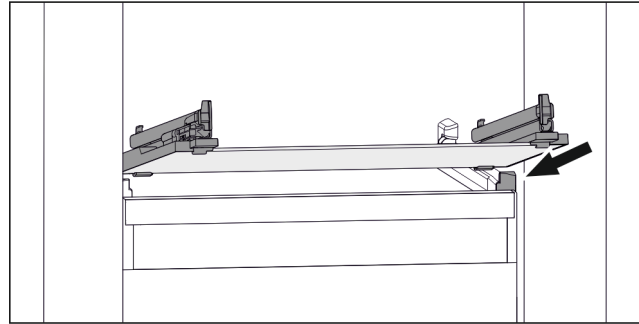

Fig. 143 Example illustration of glass shelf
- ▶ Position glass shelf at an angle behind the stoppers. (see Fig. 143)